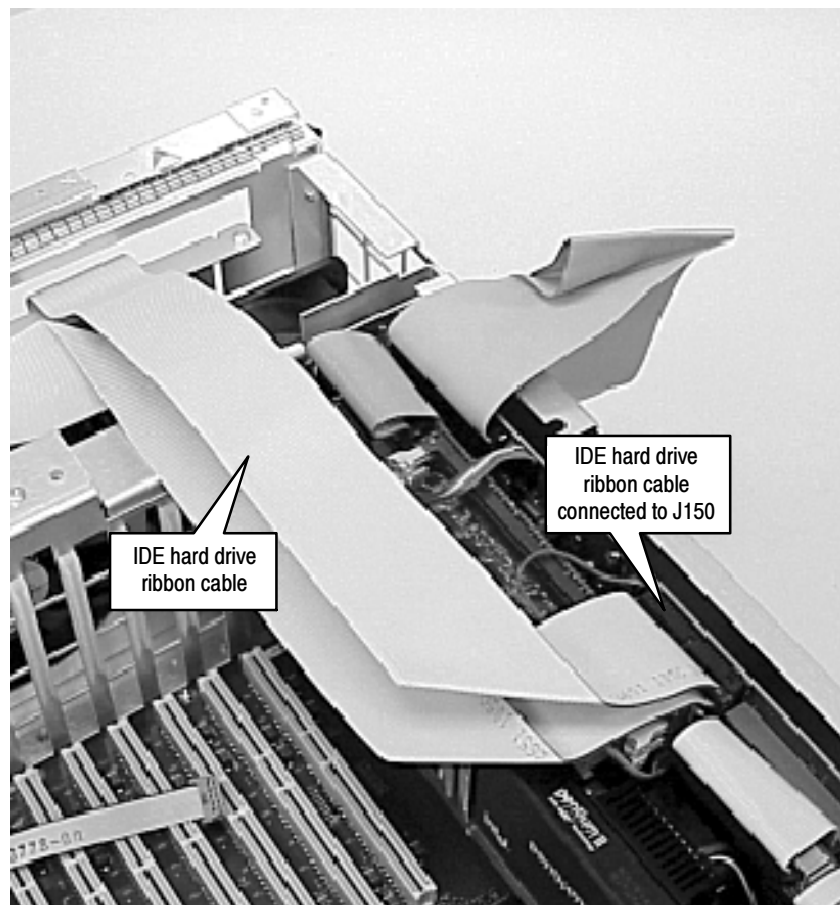

Figure 5: IDE hard drive ribbon cable connected to the I/O board.
5. Disconnect the IDE hard drive ribbon cable from J150 on the I/O board. See Figure 5.